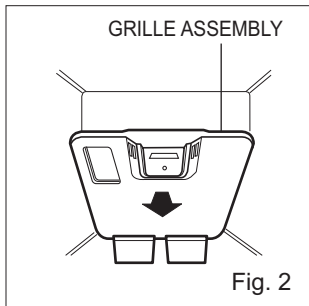

Fig. 2
1. Pull out the grille assembly. (Figure 2)